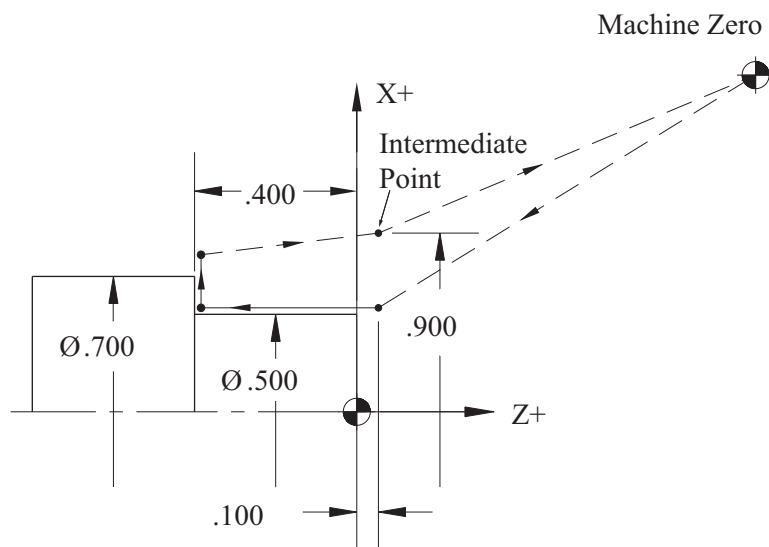

Figure 3-14
In this block, the values in X(U) and Z(W) are the coordinates for an intermediate point through which the tool will pass on its way to machine zero return (Figure 3-14).